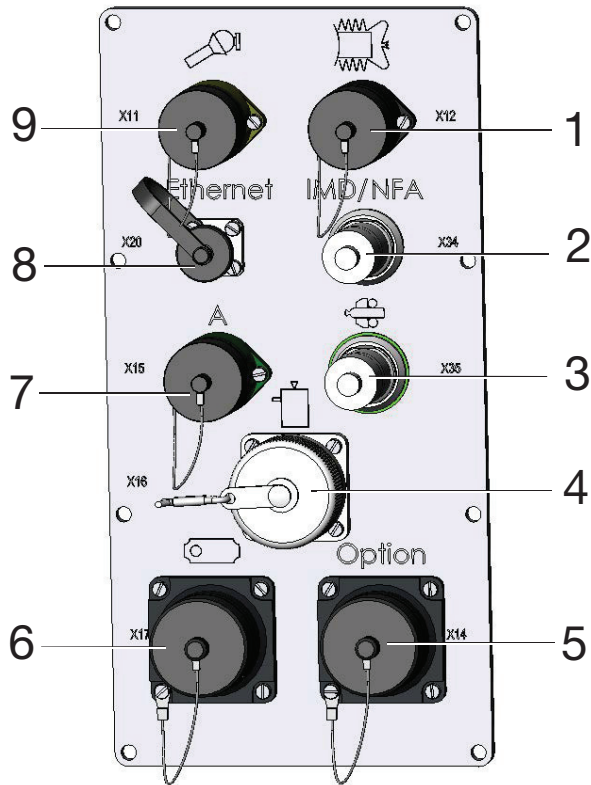

Fig. 3-13 Connections on the stuffer side
- Connect the connection 4, Fig. 3-13 and the connection on the stuffing machine using the appropriate control cable.